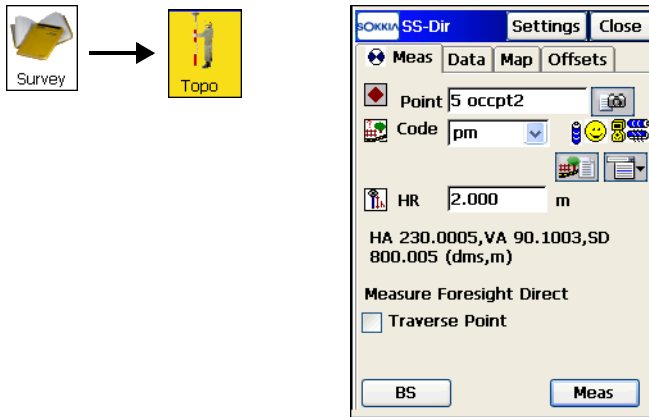

Figure 8-36. Sideshot-Direct
1. Tap **Survey ▶ Topo** (Figure 8-36). Select the *Sideshot Dir* measurement method and set the order and the type of the measurements in a set.
6. To perform the sideshot, tap the **Meas** button (Figure 8-36 on page 8-34).